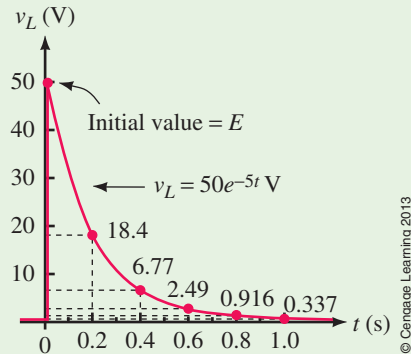

FIGURE 14–9 Inductor voltage transient.
- c. The waveform is shown in Figure 14–9.
d. Steady state voltage is 0 V, as you can see in Figure 14–9.
For the circuit of Figure 14–7, with $E = 80$ V, $R = 5$ k Ω , and $L = 2.5$ mH: